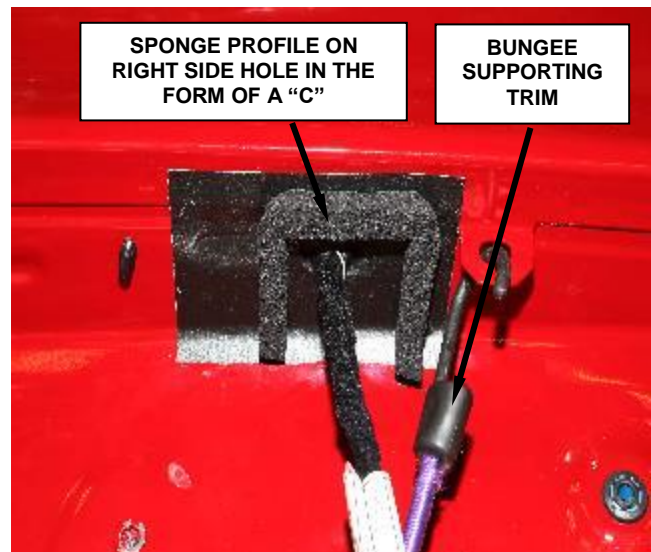

Figure 30 – Sponge Profile
11. Apply the piece of adhesive sponge profile around the hole to form a C, as shown, making sure it adheres completely (Figure 30).